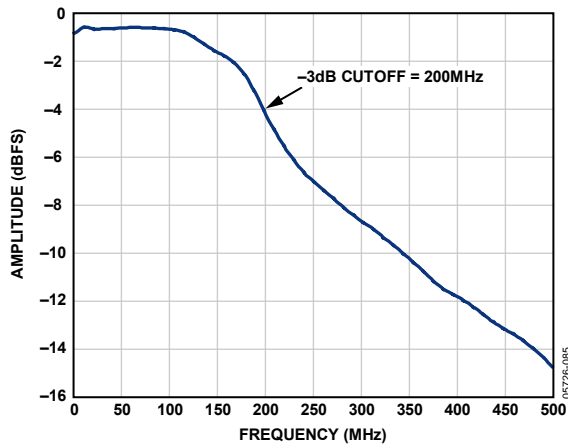

Figure 71. Evaluation Board Full Power Bandwidth
- **AIN:** The evaluation board is set up for a transformer-coupled analog input with optimum 50  $\Omega$  impedance matching out to 200 MHz (see Figure 71). For more bandwidth response, the differential capacitor across the analog inputs can be changed or removed. The common mode of the analog inputs is developed from the center tap of the transformer or AVDD\_DUT/2.